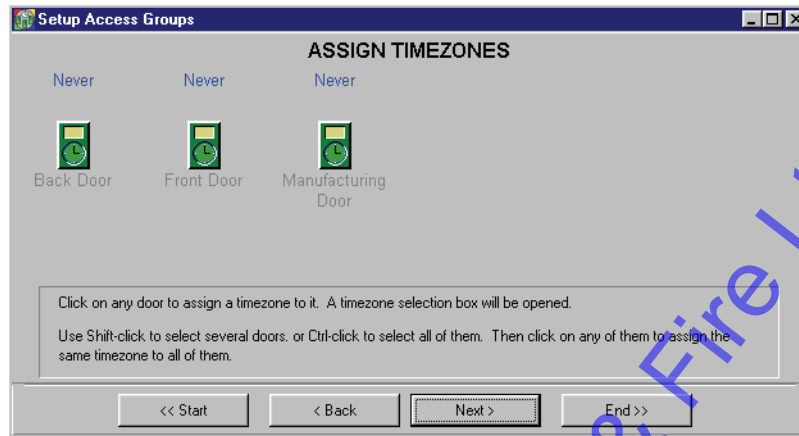

Figure 3-34: Assign Timezones Window - Selected Doors
6. Click on the  button and the Assign Timezones window appears (see Figure 3-34).